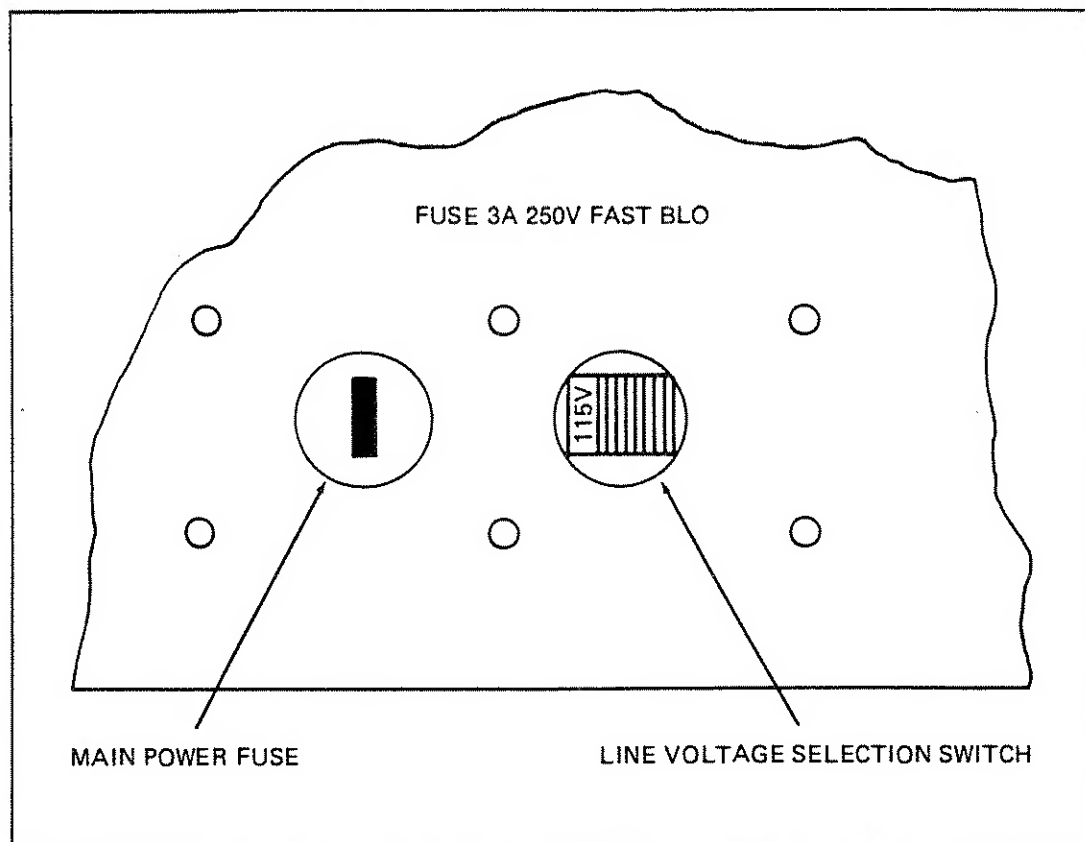

Figure 3-3. Main Power Fuse and Line Voltage Selection Switch
2. On the rear panel, remove the six allen screws that hold the RFI shield over the main power fuse and the line voltage selection switch (Figure 3-3).
3-19. Figure 3-3 shows the line voltage selection switch. This control determines whether the instrument will operate in a 90 to 132V ac rms line voltage environment or a